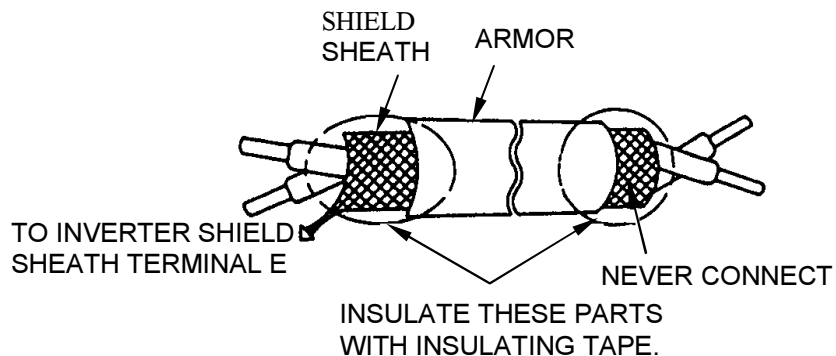

Fig. 4 Shielded Wire Termination
- (1) Separation of control circuit leads and main circuit leads: All signal leads must be separated from main circuit leads L1 (R), L2 (S), L3 (T), ⊕, ⊖, B2, T1 (U), T2 (V), T3 (W) and other power cables to prevent erroneous operation caused by noise interference.
- (2) Control circuit leads ⑨, ⑩, ⑱, ⑲, ⑳ (contact output) must be separated from leads 1 to 8, ㉑, ㉒, ㉓, ㉔, ㉕ and ⑪~⑰.
- (3) Use twisted shielded or twisted pair shielded wire for the control circuit line and connect the shield sheath to the inverter terminal E to prevent malfunction caused by noise. See Fig.4. Wiring distance should be less than 164ft (50m).